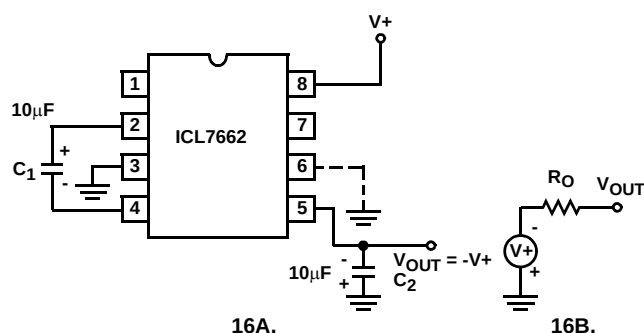

FIGURE 16. SIMPLE NEGATIVE CONVERTER AND ITS OUTPUT EQUIVALENT
The majority of applications will undoubtedly utilize the ICL7662 for generation of negative supply voltages. Figure 16 shows typical connections to provide a negative supply where a positive supply of +4.5V to 20.0V is available. Keep in mind that pin 6 (LV) is tied to the supply negative (GND) for supply voltages below 10V.
ESR also affects the ripple voltage seen at the output. The total ripple is determined by 2V, A and B, as shown in Figure 16. Segment A is the voltage drop across the ESR of C_2 at the instant it goes from being charged by C_1 (current flowing into C_2) to being discharged through the load (current flowing out of C_2). The magnitude of this current change is $2 \times I_{OUT}$, hence the total drop is $2 \times I_{OUT} \times ESR_{C_2} V$. Segment B is the voltage change across C_2 during time t_2 , the half of the cycle when C_2 supplies current the load. The drop at B is $I_{OUT} \times t_2 / C_2 V$. The peak-to-peak ripple voltage is the sum of these voltage drops:
Figure 23 combines the functions shown in Figure 16 and Figure 22 to provide negative voltage conversion and positive voltage doubling simultaneously. This approach would be, for example, suitable for generating +9V and -5V from an existing +5V supply. In this instance capacitors C_1 and C_3 perform the pump and reservoir functions respectively for the generation of the negative voltage, while capacitors C_2 and C_4 are pump and reservoir respectively for the doubled positive voltage. There is a penalty in this configuration which combines both functions, however, in that the source impedances of the generated supplies will be somewhat higher due to the finite impedance of the common charge pump driver at pin 2 of the device.